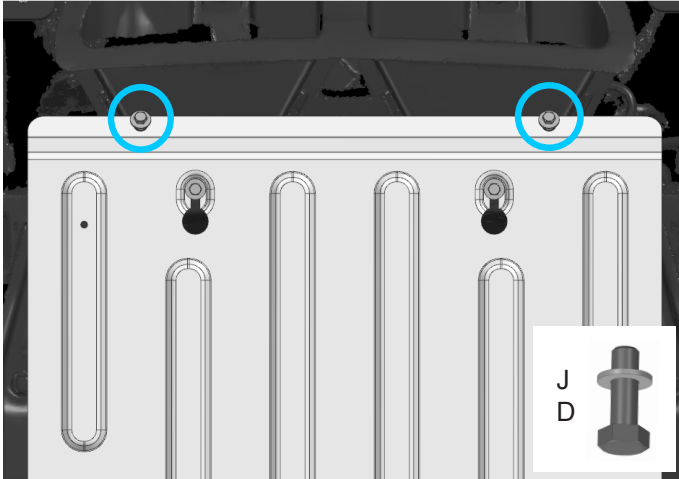

Fig. 9
9. Screw bolts M8x25 and washers M8 (item D, J) on 2-3 turns, as shown in fig.9.